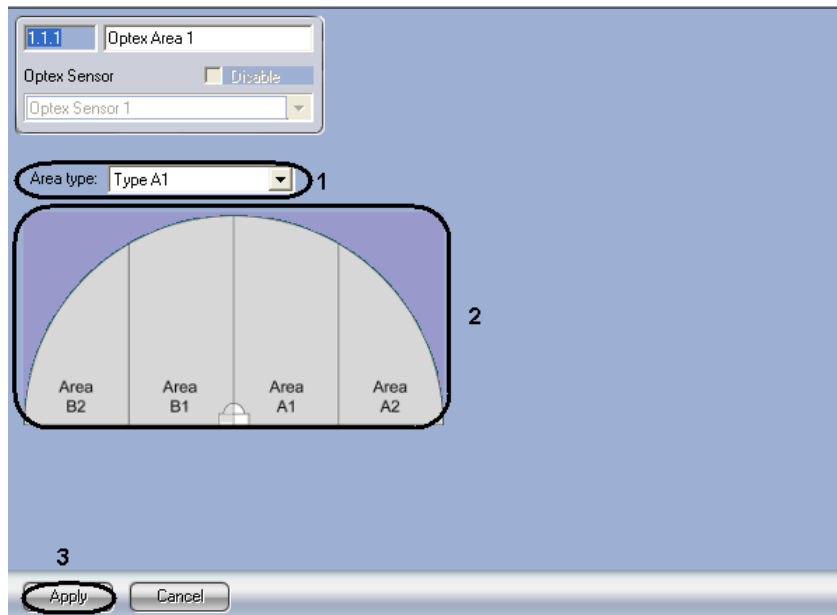

Fig. 3.5—2 Configuring a detection area
2. In the **Area type** drop-down list, select an area type. This is the position of the detection area (Fig. 3.5—2, **1**).
*Note 1: The figure above shows the setup panel of a **Optex Area** object. For each area type (label), the figure shows which position it represents, for the case when the sensor is configured for 4 detection areas (see Fig. 3.5—2, **2**).*